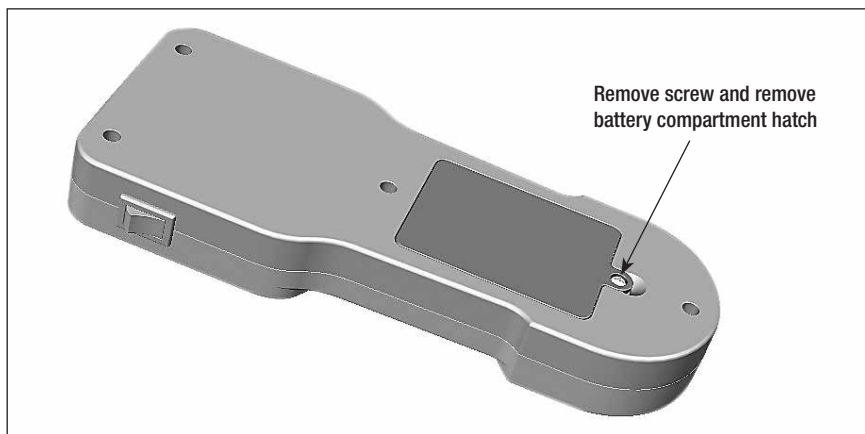

Figure 1. Opening and closing the battery compartment
**F**or safety purposes, you must use a Phillips screwdriver to access the battery compartment. Use a Phillips screwdriver to remove the screw that secures the battery compartment hatch and lift the hatch to access battery compartment (as shown in Figure 1). Insert three AAA batteries orientating the +/- as shown in the bottom of the battery compartment. Replace the battery door and snap closed.